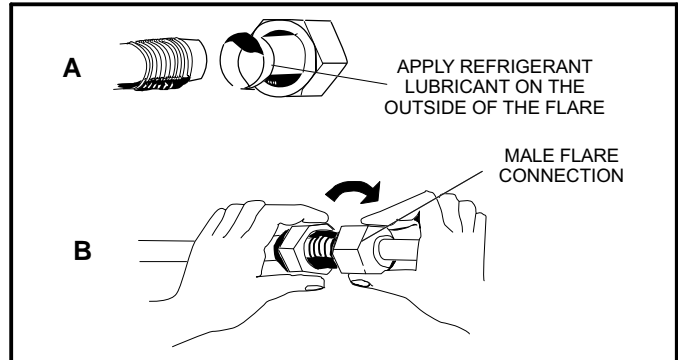
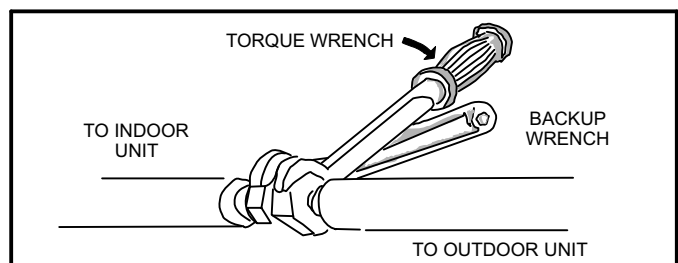
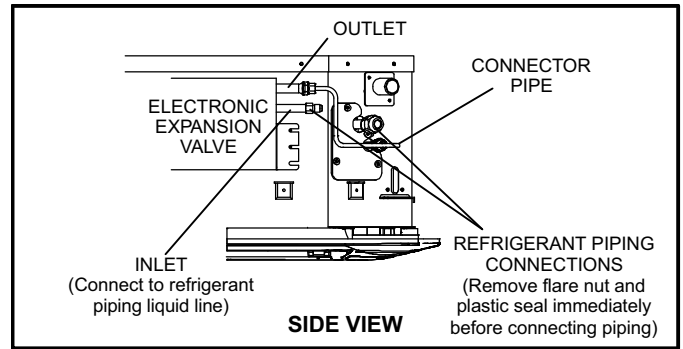

Figure 4. Making Connections at Indoor Unit (Male to Female Connection)
Figure 5. Tighten Flare Nut
Figure 6. Liquid Line / Expansion Valve Connector
- 5 - Apply recommended HFC-410A refrigerant lubricant to the outside of the flared refrigerant lines (figure 4-A and figure 6).
- 6 - Align the threaded connections with the flared refrigerant lines. Tighten the flare nuts lightly at first to obtain a smooth match (figure 4-B and figure 6).
- 7 - Once snug, continue another half-turn on each nut which should create a leak-free joint. A torque wrench may be used to tighten flare nuts using table 2 recommendations. (see figure 5). **Do not over-tighten a flared joint.**
- 10 - Immediately align the connector pipe with the cassette base liquid line and the electronic expansion valve connection labeled "OUTLET." See figure 6. Hand-tighten the flare nuts at first. Then, use two wrenches to continue to tighten the nuts without twisting the pipes. See figure 5. Torque requirements are given in table 2. **Again, do not over-tighten the flared joints.**